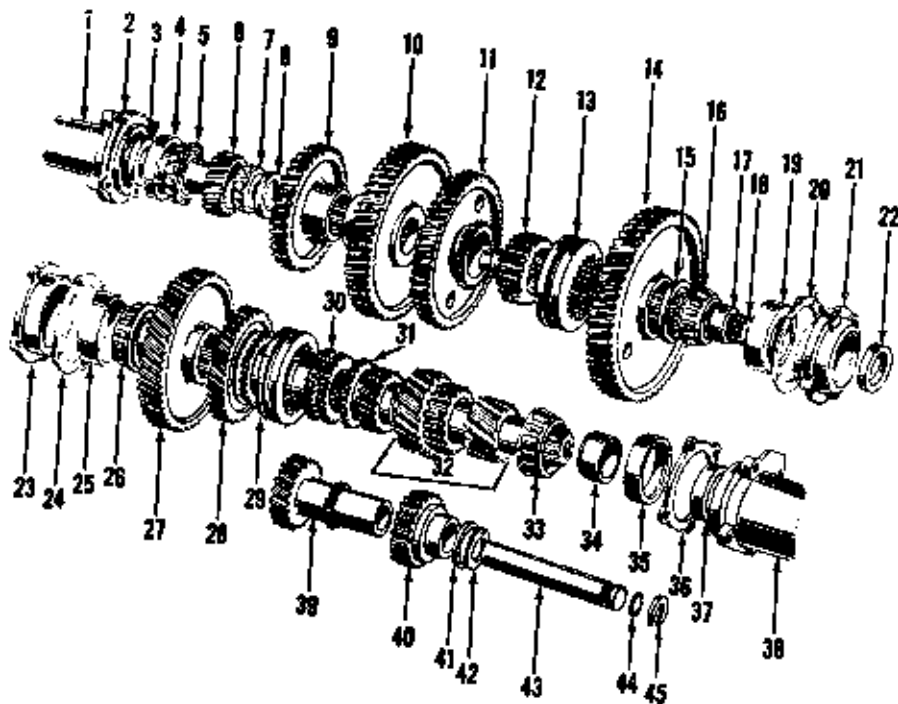
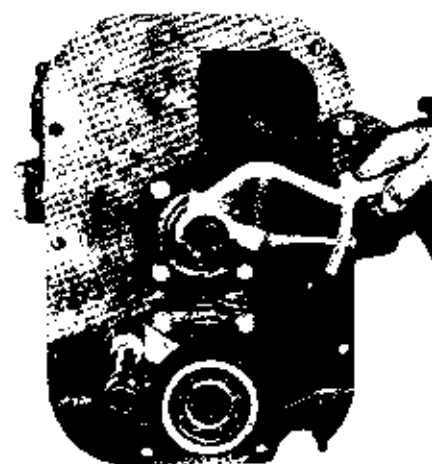
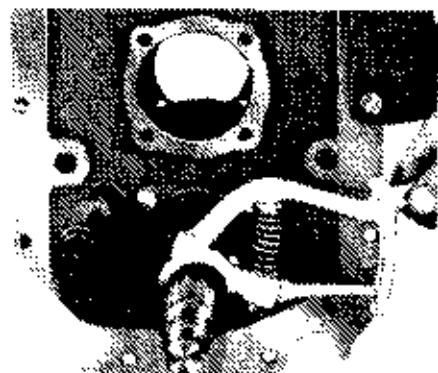

Fig. FO46—Exploded view of transmission gears and shafts.
Fig. FO48—Desired adjustment of mainshaft bearings is 20-35 inch pounds torque to rotate the shaft.
Fig. FO49—Desired adjustment of countershaft bearings is 15-30 inch pounds to rotate the shaft when mainshaft is out of the transmission.
80. MAIN DRIVE GEAR. (Clutch Shaft on models without Sherman Transmission.) This gearshaft (6—Fig. FO46) may be removed after transmission and engine are separated as in paragraph 61. However, if adjustment of the shaft bearings is required, it will be necessary to perform the rear section split as outlined in paragraph 76 to gain access to the adjustment shims. Remove gearshaft and retainer (1) as a unit. Refer also to Fig. FO47.
Renew worn or damaged parts and reassemble. Coat shaft with oil and rotate same when assembling it to the retainer so as to avoid damaging the oil seal. Lip of seal (3—Fig. FO46) should face towards rear. After shaft is reinstalled, adjust end play as per paragraph 82. However, if the
81. MAIN (OUTPUT) SHAFT. To remove this shaft (18—Fig. FO46), first remove transmission from tractor as per paragraphs 75 and 76. Also remove the top shifter rail and fork and shift plates as per paragraph 77.
Then remove mainshaft rear bearing retainer (21) and the adjusting shims. Remove clutch shaft (main drive gear) and retainer (1) as a unit or remove Sherman transmission on models so equipped. It may be necessary to slide the second and fourth gear fork (12—Fig. FO45) and reverse gear fork (16) forward to provide clearance. Lift out the mainshaft and gear cluster as a unit. Disassemble and renew worn or damaged parts including the oil seal. Refer to Fig. FO46 as a guide for reassembly.
Before installing the main shaft, it is advisable to check the countershaft preload as shown in Fig. FO49. Desired preload of 15-30 inch lbs. is controlled by shims (36—Fig. FO46) located between the pin support and rear face of transmission.
82. To test mainshaft bearing adjustment, rotate rear end of mainshaft with transmission in neutral and measure turning torque as shown in Fig. FO48. If torque is 20 to 35 inch pounds measured with shaft in motion, bearing adjustment is correct. Vary the number of shims (20—Fig. FO46) under rear bearing retainer to obtain this adjustment.
83. COUNTERSHAFT. This shaft (32—Fig. FO46) can be removed after removing mainshaft as outlined in paragraph 81 and the second and fourth gear shift fork and rail as outlined in paragraph 78. Remove the power take-off bearing support (38)
Renew any worn or damaged parts including the oil seal in the pto shifter support and reassemble as shown in Fig. FO46. Reinstall the assembly and adjust bearings by means of shims (36) to obtain a bearing preload of 15-30 inch pounds torque to rotate shaft. Shaft can be rotated for checking bearing adjustment by inserting the pto shaft in shifter unit as shown in Fig. FO49.
84. REVERSE IDLER GEARS. These gears (39 and 40—Fig. FO46) can be removed after the countershaft is removed as outlined in paragraph 83 and the reverse fork and rail are removed as outlined in paragraph 79. Pull idler shaft (43) out to rear and remove gears and washers (41 and 42) out top opening of transmission. Reverse idler gear (39) has two renewable bushings. The idler driven gear (40) rotates on the idler gear (39). Rebrush gear (39) or renew parts as necessary and reinstall as follows: